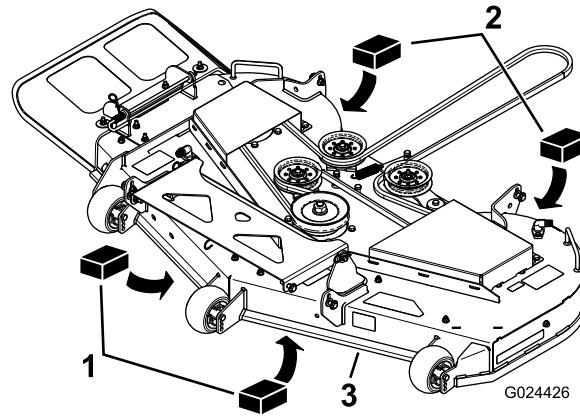

Figure 63
- Place two 6.66 cm (2-5/8 inch) blocks under each side of the front edge of the deck, but not under the anti-scalp roller brackets (Figure 63).
- Place two 7.30 cm (2-7/8 inch) thick blocks under the rear edge of the cutting deck skirt; one on each side of the cutting deck (Figure 63).